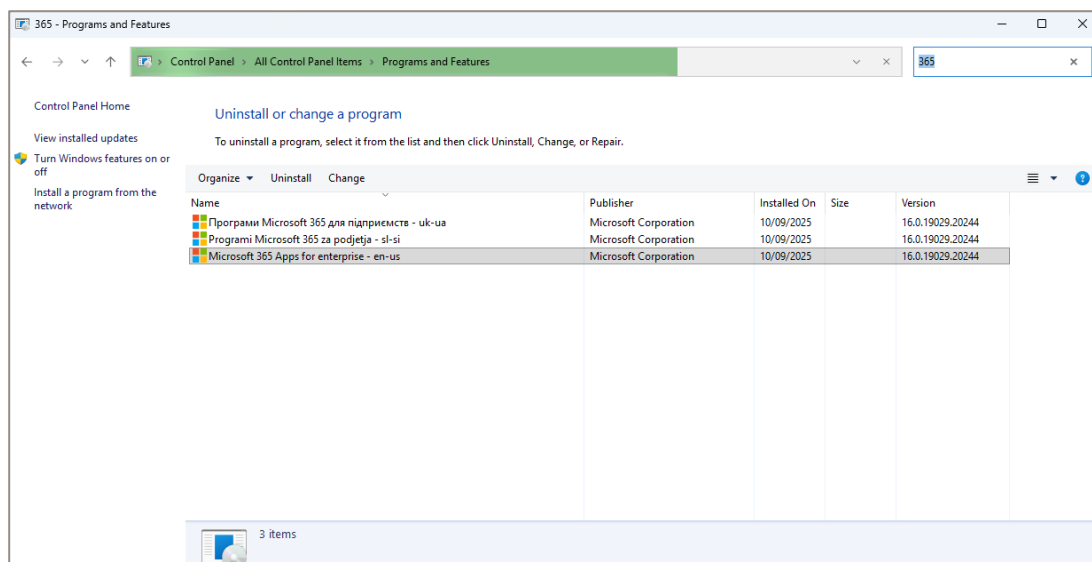

Figure 13: Step 01 - Access Control Panel + Search for Office /365
1. Access Control Panel -> Programs and Features -> Search for Office / 365 in the search toolbox in the top right hand corner. (see Figure 13)